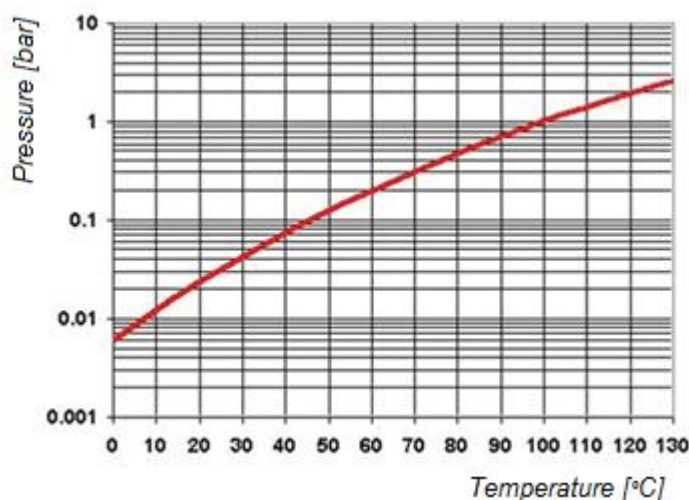

Figure 14: Water vapour line
- When the pressure decreases, the boiling point of water is reduced (see Figure 14). This physical law can cause a product to boil. In addition to contamination of the machine, this provides for loss of weight and quality of the product to be packed